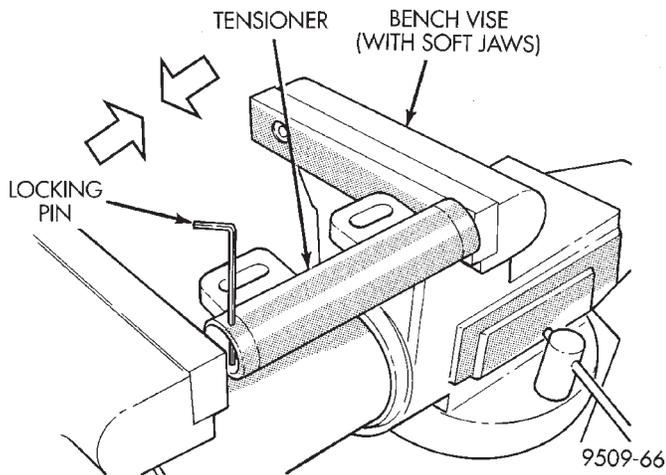

Fig. 34 Compressing Timing Belt Tensioner
(2) Place the tensioner into a vise equipped with soft jaws and slowly compress the plunger (Fig. 34).